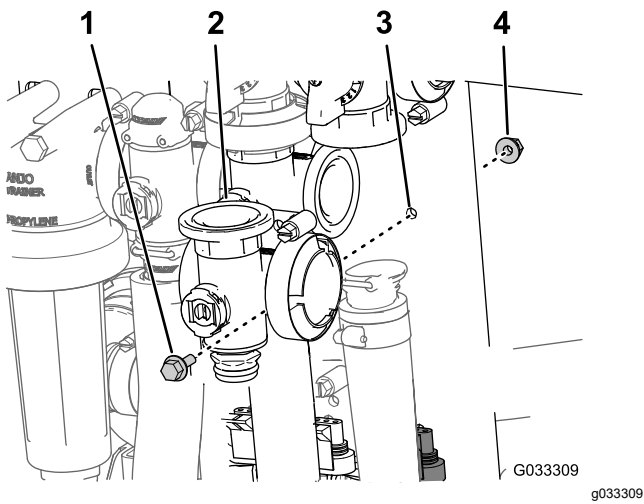

Figure 73
- Remove the flanged-head bolt and flanged locknut that secures the master-section valve to the valve mount and remove the valve manifold from the machine (Figure 73).